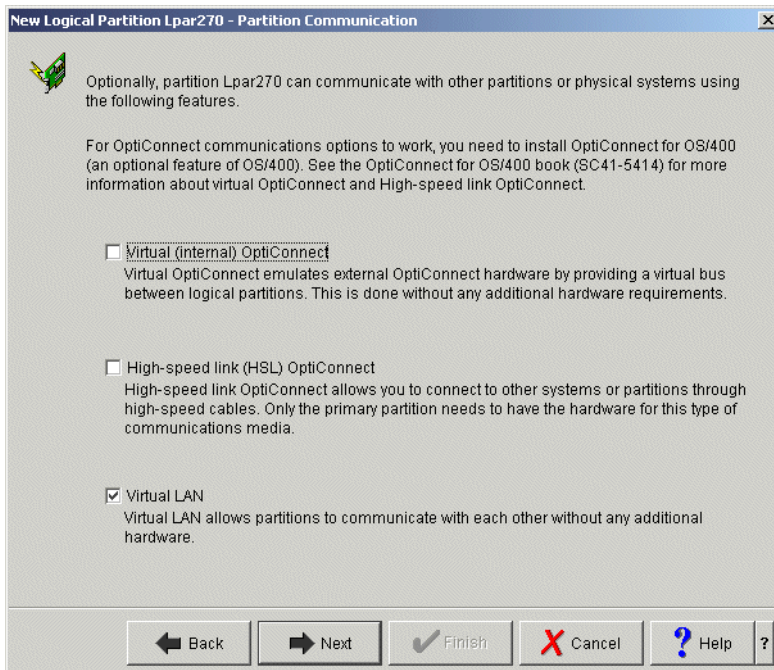

Figure 4-25 New Logical Partition - Partition Communication window
21. The New Logical Partition - Partition Communication window appears as shown in Figure 4-25.